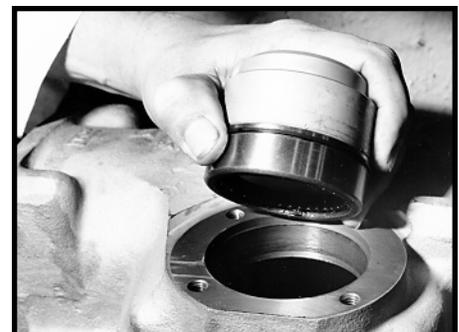

Figure 102
retaining ring (21) into the groove on the bearing's outside diameter. Then press the bearing into the housing from the trunnion side using bearing mandrel (special tool) J26743 against the lettered end of the bearing shell so that the retaining ring is away from the housing bore. SEE FIGURE 102. During this procedure be sure that the housing is square with press base and the bearing is not cocked.
**NOTE: The bearing assembly (20) may be of caged (retained) roll type therefore not requiring reassembly of the rolls.**